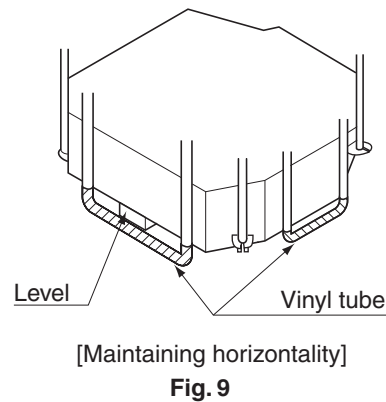

Fig. 9
- (3) Adjust so that the unit will be properly positioned. (Refer to 4. PREPARATION BEFORE INSTALLATION – (1))
- Using the Installation guide (15) allows you to check the positions from the underside of the unit to the lower ceiling surface.
- (4) Check the level of the unit. **(Refer to Fig. 9)**
- (5) Remove the washer fixing plate (7) used for preventing the washer for hanger (3) from falling and tighten the upper side nut.
- (6) Remove the installation pattern paper (5).